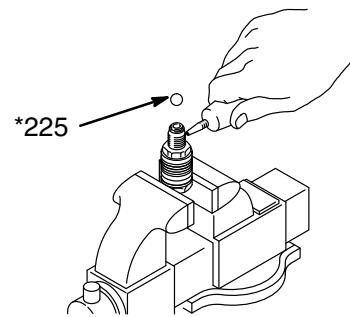

Fig. 25
- Apply one drop of Locktite to the threads. Place the ball (225*) on the piston valve. See Fig. 25.